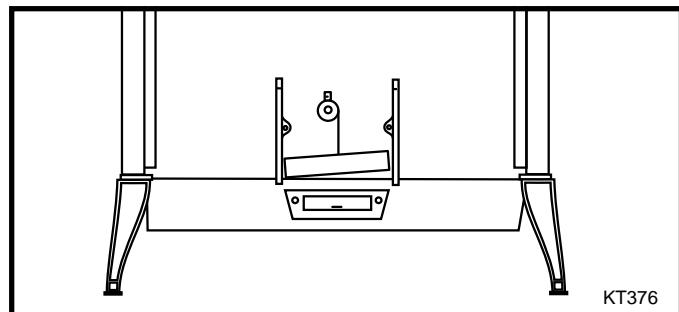

Fig. 5 Rear view of stove.
14. Behind the steel plate, there is a secondary probe assembly (Item 20). This consists of a probe and a bimetal coil secured by a phillips screw. (Fig. 5) There is a slender steel rod between the end of the coil and a pivoting valve plate (Item 19). Remove the phillips screw and pull the coil and probe partway out of the stove back. When the probe is halfway out of the stove back (about 1" showing), remove the slender rod from the tab at the end of the coil. Leave the rod hanging from its tab on the secondary valve. Leave the secondary valve, Item 19, in place.
11. Install the new combustion throat hood (Fig. 5, item 10). Slide a protruding pin on one end fully onto the corresponding support bracket on the upper fireback, then slide the pin in on the trailing end of the hood onto the other support bracket. Center the hood left-to-right on the fireback, and let its lower edge hang against the lower fireback.
13. Attach the slender steel rod to the tab at the end of the bimetal coil, part of the new secondary probe assembly. Carefully press the secondary probe into place through the hole you made in the refractory chamber. Do not jam the probe into place, as this can break pieces off the refractory chamber. Secure the probe with the phillips pan-head bolt you removed in disassembly step 14. The correct positioning for the probe is shown in Figure 5. Note the tab on the end of the coil is in the 4 o'clock to 5 o'clock position, when the stove is cold.